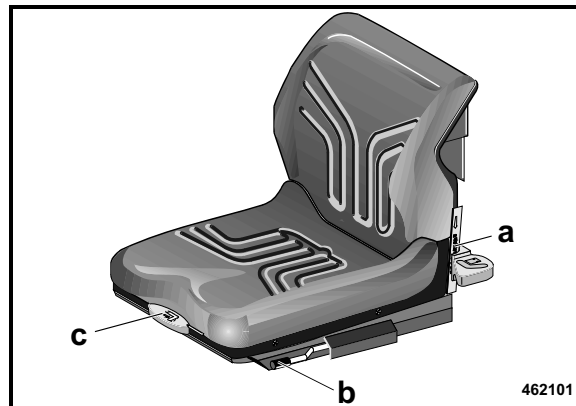

Fig. 51
- Use lever (a) (Fig. 51) to adjust to the weight of the operator.